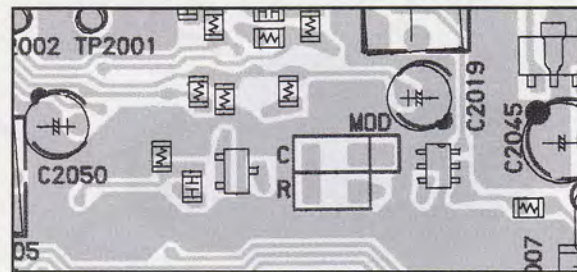

Fig. 3 TX Audio Component Location
- Next locate the set of pads labeled **MOD (C & R)**, above connector J2008 (fig. 3). Solder a 10-k $\Omega$  chip resistor across pad **R**, and a 0- $\Omega$  chip resistor\* across pad **C**, and a wire lead to the adjacent pad. Pre-emphasized audio is fed to the transmitter here.